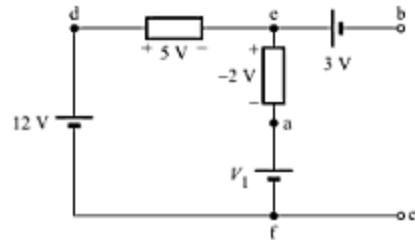

Fig. 3.63
4. For the circuit shown in Fig. 3.63, Find  $V_1$ ,  $V_{ad}$ ,  $V_{bc}$  and  $V_{ac} + V_{ce}$  [Ans. 9 V, -3 V, 4 V, 2 V]